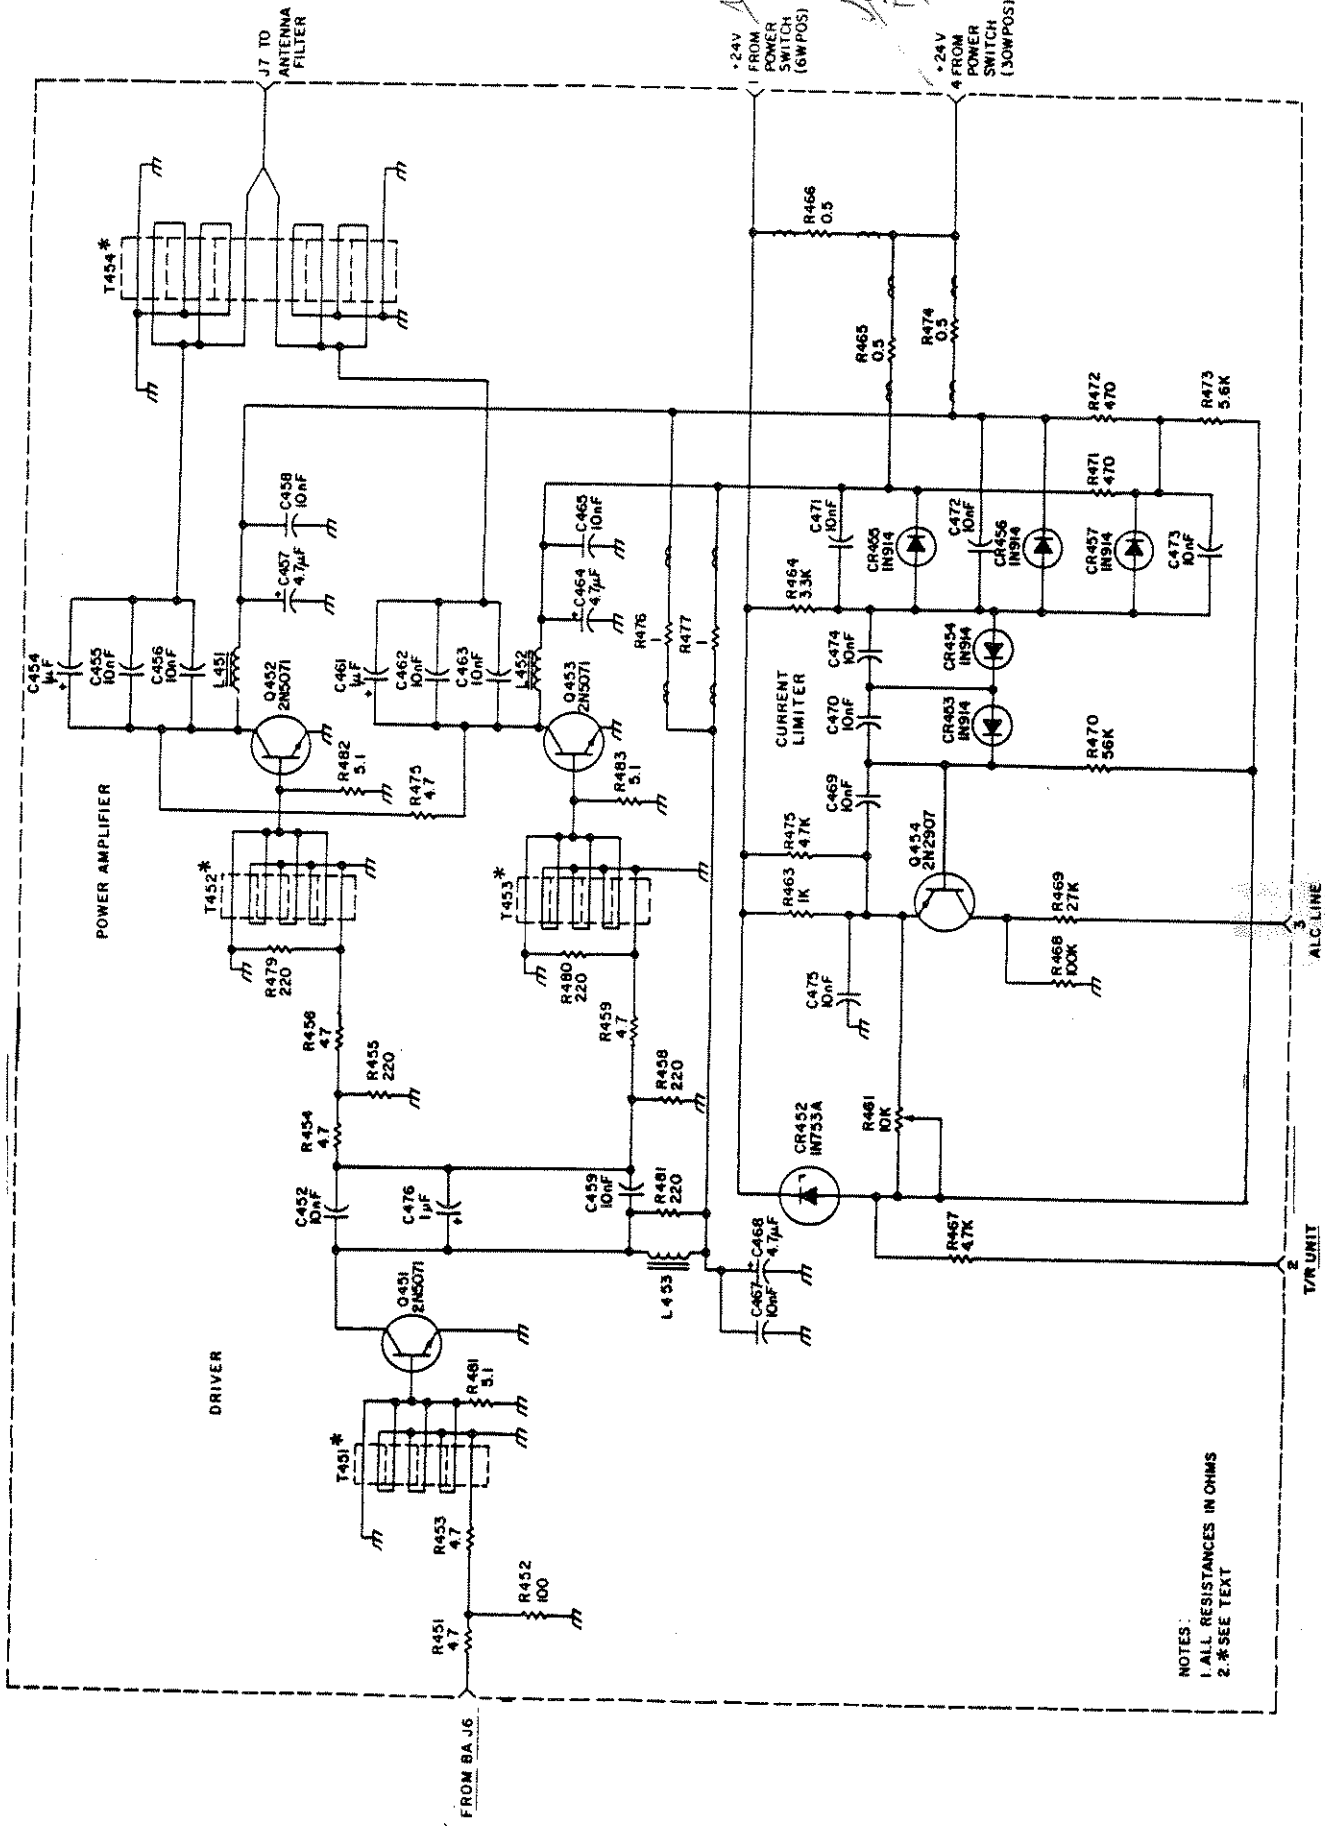

Figure 3-15. Power Amplifier Assembly A450, Schematic Diagram
(i) **Power Amplifier (PA)** (Fig. 3-15) – The PA assembly contains the last two stages of the Range Booster and a current regulating circuit. The assembly is mounted on an aluminium plate and is secured to the front panel to provide a suitable thermal path. All connections to the unit are made through plugs.